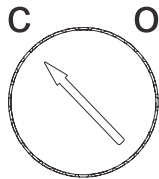

Fig. 6 Gas Ballast Valve
Close the gas ballast to pump non-condensable gases (Set the gas ballast to position C, refer to Fig. 6). The ultimate pressure will rise (loss of vacuum) with gas ballast opened.
If the vacuum system contains a small amount of condensable gas, open the gas ballast valve (Set the gas ballast to position I or II, refer to Fig. 6) and keep the pump running for at least 30 minutes to pump the condensable gas effectively. Close the gas ballast valve when the vacuum system pressure is reduced to a certain value. If the pump operates at low temperature, condensable gas may be dissolved in the pump oil. The oil may be emulsified or deteriorated which will affect the pump performance, even cause corrosion of the pump body.
- 1) The oil level shall be always kept between position MAX and MIN of oil sight glass during operation (refer to Fig. 6). Add oil when the oil level is lower than position MIN and discharge oil by removing the oil drain plug (refer to Fig. 1) when the oil level is above position MAX.